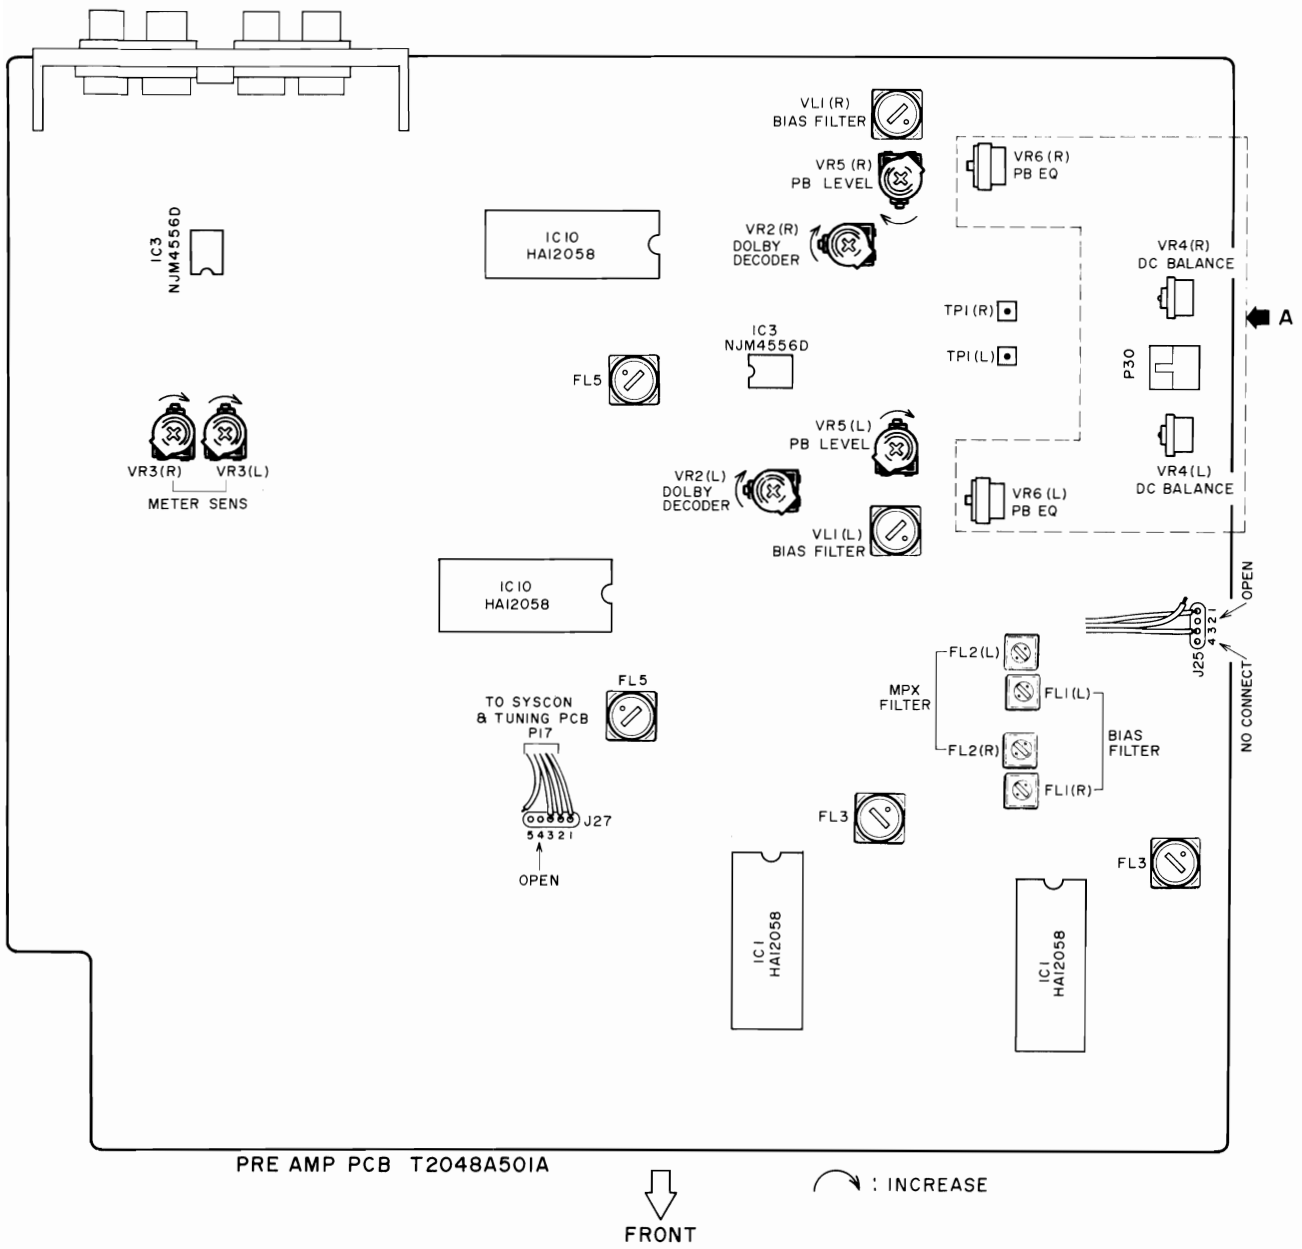

Fig. 7-1 Pre Amp P.C Board
2. a. Refer to Figs. 7-1 and 7-2 for pre amp adjustment.
(Refer to Fig. 7-1) (The wire is Rch PB out)